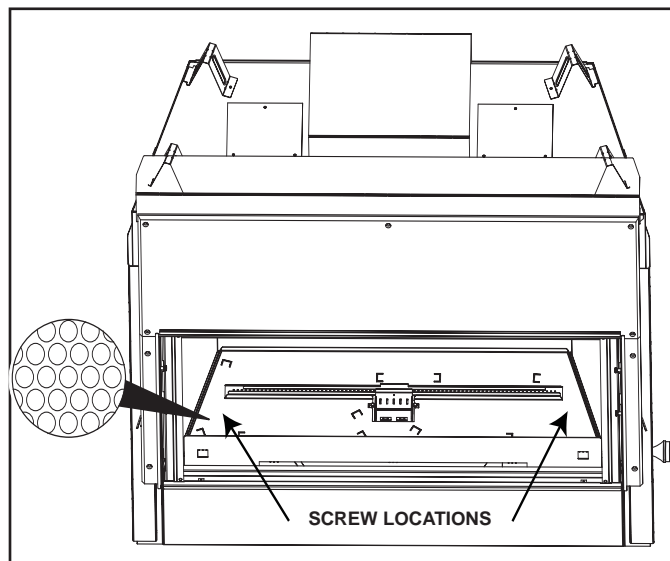

Figure 16.3 Remove Media Tray
2. Remove media tray by removing two screw located on the front edge of the media tray. See Figure 16.3.